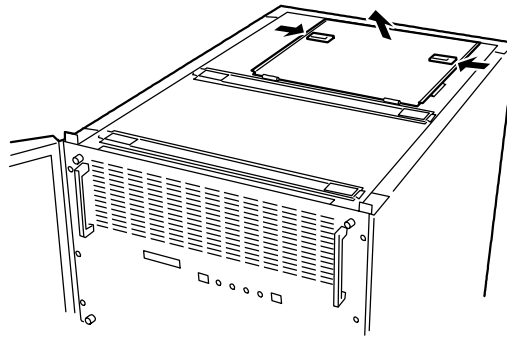

Figure 4-38. Opening the PCI Expansion Slot Door
3. Open the PCI expansion slot door located on top of the BSU, see Figure 4-38.